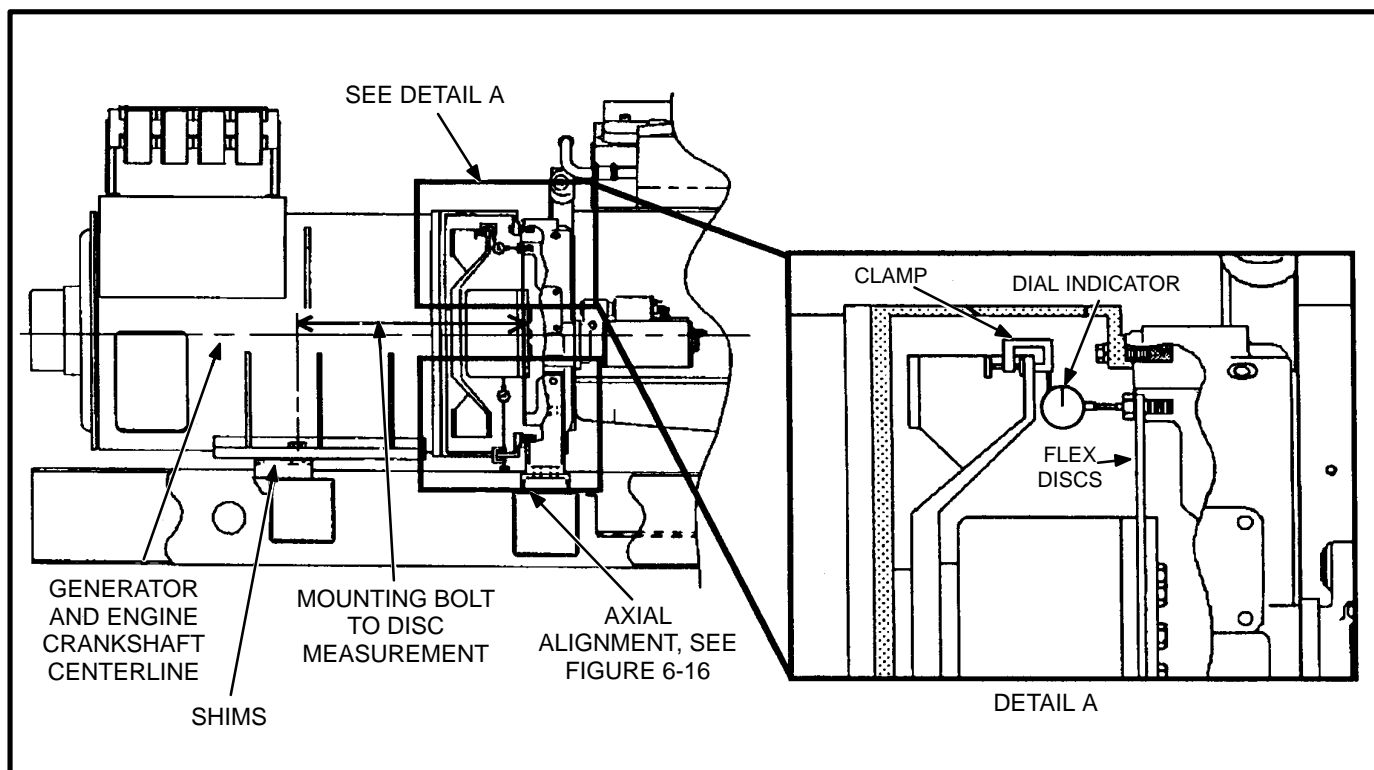

FIGURE 6-14. ANGULAR ALIGNMENT MEASUREMENT
Fasten a dial indicator to either the generator shaft or the cooling fan with the sensing point resting on the capscrew head or the flat surface of the drive disc at the bolt circle diameter, see Figure 6-14. Bar the engine over in a clockwise rotation as viewed from engine flywheel. Do not allow it to roll back on compression at the end of the travel of each reading. It is unnecessary to zero the indicator since the total indicator reading (T.I.R.) of the deflection measurement to the bolt heads is what is required. T.I.R. will be the sum of the maximum positive and negative dial indicator readings as the engine completes one revolution.
2. Measure the distance from the generator side of the flex discs to the center of the generator mounting bolt, refer to Figure 6-14. (For example; a HC6 Frame's distance is 28.4".)